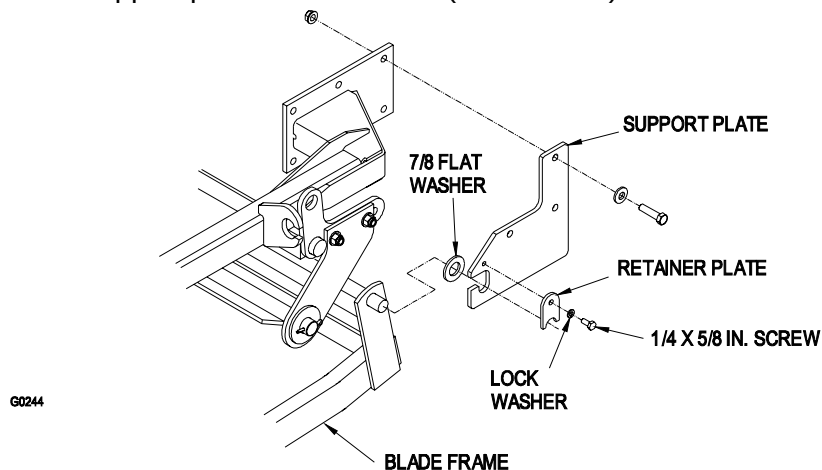

Figure 7
1. Slide the blade frame beneath the traction unit, slide 2 large flat washers on the shaft and hook the rear shaft of the blade frame into the slots in the support plates (Fig. 7).
2. To keep the blade assembly from moving around in the slots, attach a retainer plate to each side of the support plates with a screw (1/4 x 5/8 in.) and lock washer (Fig. 7).